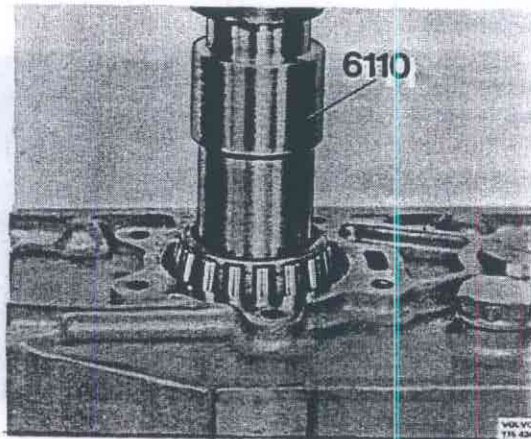

Fig. 43-195. Pressing on inner race
9. Fit the axial washer and the front bearing inner race on the shaft, with the inner bevel of the washer facing upwards. Press them on with 6110, Fig. 43-195.